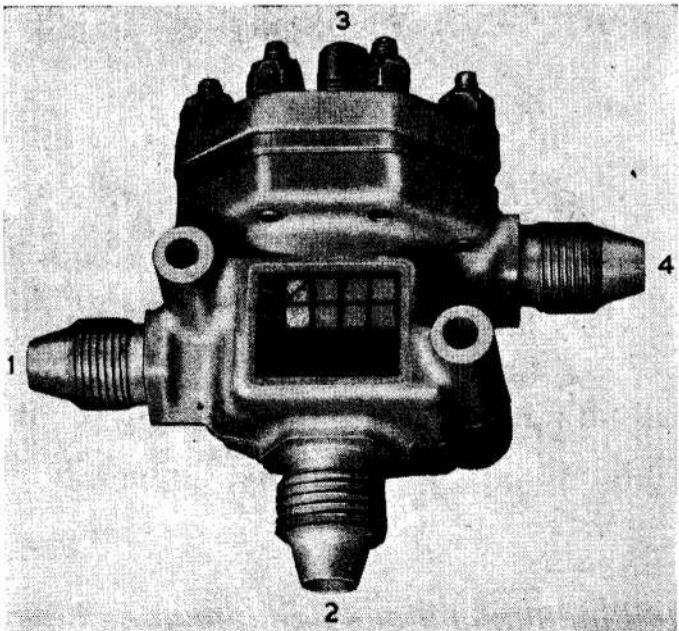
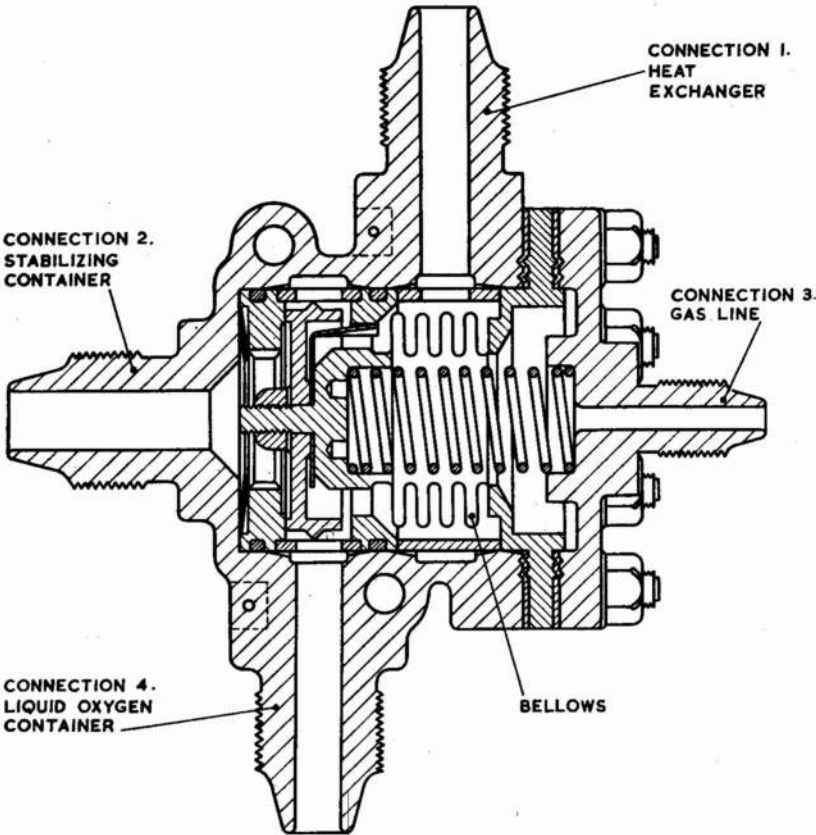

Fig. 1. Automatic change-over valve Ref. No. 6D/2319
Fig. 2. Sectional view
10. Referring to fig. 1 and fig. 2, details of the pipeline connections are as follows:—